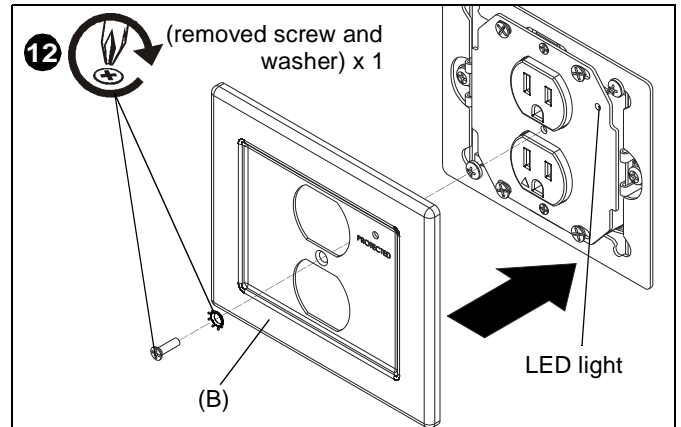

Figure 8
12. Install faceplate (B) onto EGX-SF2 using one Phillips flat head screw and locking washer removed in Step 11. (See Figure 8)
NOTE: Make sure LED light on outlet box lines up with hole location on faceplate (B). (See Figure 8)